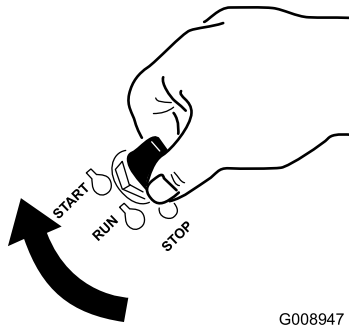

Figure 16
1. Turn the ignition key to the Start position (Figure 16). When the engine starts, release the key.
6. Turn the ignition key to the Start position (Figure 16). When the engine starts, release the key.